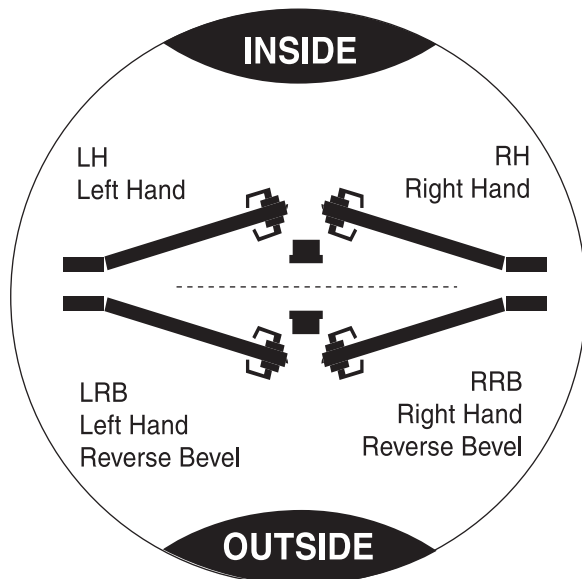

Figure 8
- Check if door is Right or Left hand. If you are facing the outside of the door and the hinge is on the right, it is a Right Hand door (and visa versa). Make sure your Kit matches your door type (Figure 8).